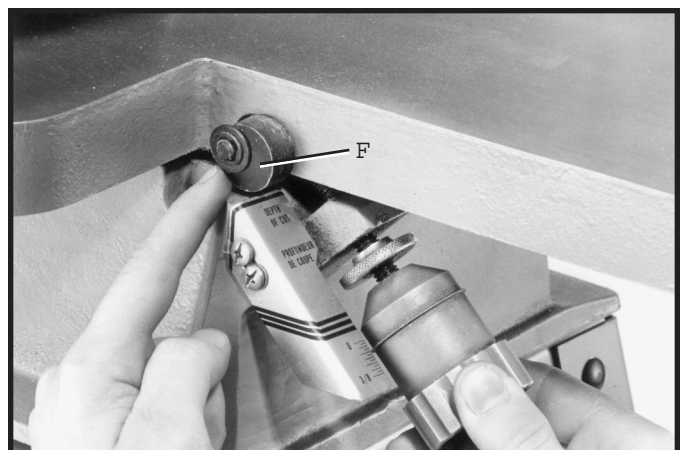

Fig. 35
6. **IMPORTANT:** The jointer features an automatic table stop (F) Fig. 35, which does not allow the infeed table to be lowered by more than $1/8$ " increments. This also acts as a safety feature should the operator fail to lock the table after setting the depth-of-cut. If it is ever necessary to lower the infeed table more than $1/8$ ", the stop (F) must be pushed upward while adjusting the table height.